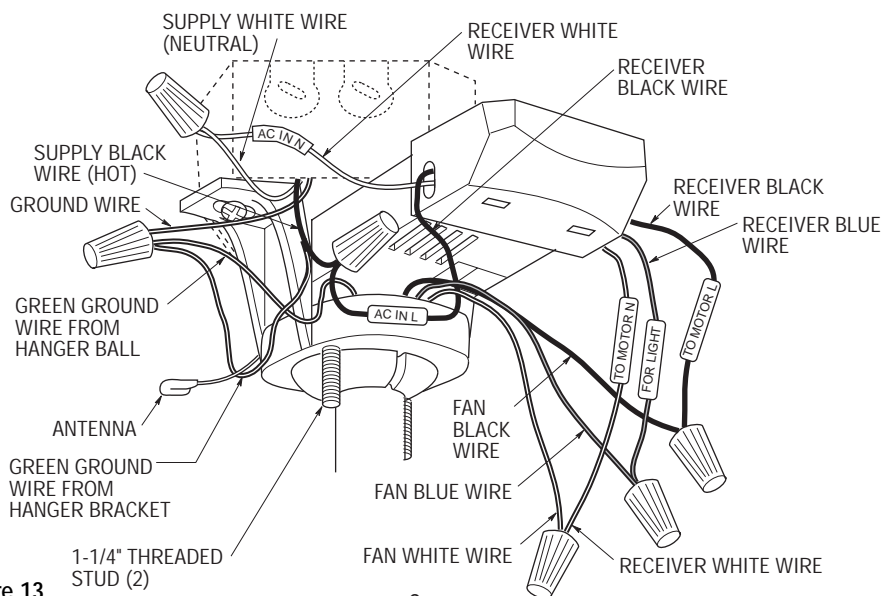

Figure 13
- 1. Position the supply wires to the left side of the outlet box (Figure 13); position the fan wires to the right side. Partially insert the remote control receiver (flat side up) until one end rests on the hanger ball as shown in Figure 13.
- 2. Refer to Figure 13 and 14 and connect the receiver wires to the supply wires and the fan motor wires as follows:
- ☐ 4. Screw the two 1-1/4" threaded studs (supplied) into the tapped holes in the hanger bracket (Figure 13).